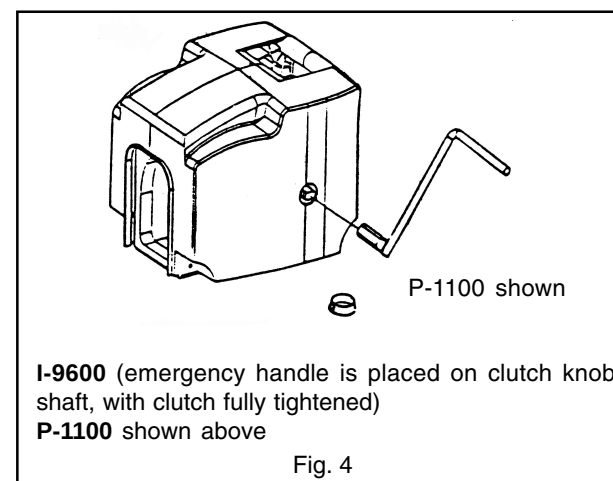

Fig. 4
2. Align female portion of handle to the output shaft on winch (see Fig. 4, page 5).